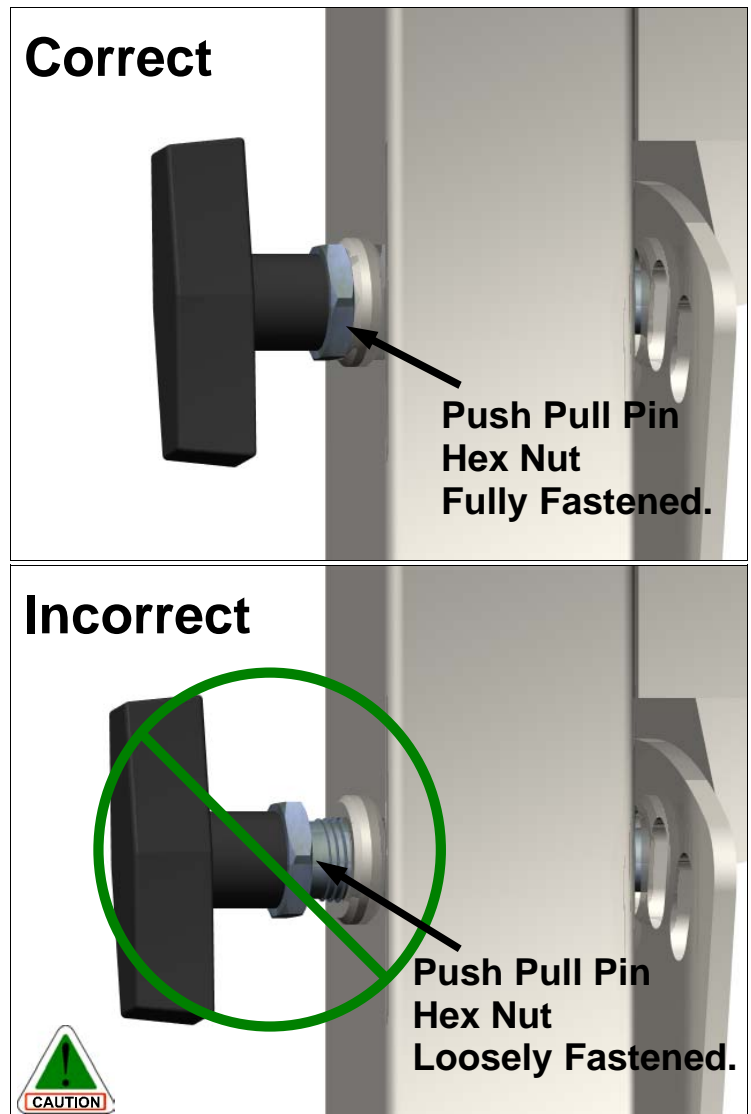

Fig. 76 **Caution:** Be sure the Push Pull Pin Hex nuts are fully fastened. Fasten if necessary.
8. Check that the **Push Pull Pin 1/2 X 3-1/2 (#38) Hex Nuts** are fully fastened (See **Fig. 76**). In addition, be sure the springs in the **Push Pull Pins 1/2 X 3-1/2 (#38)** are operating freely.